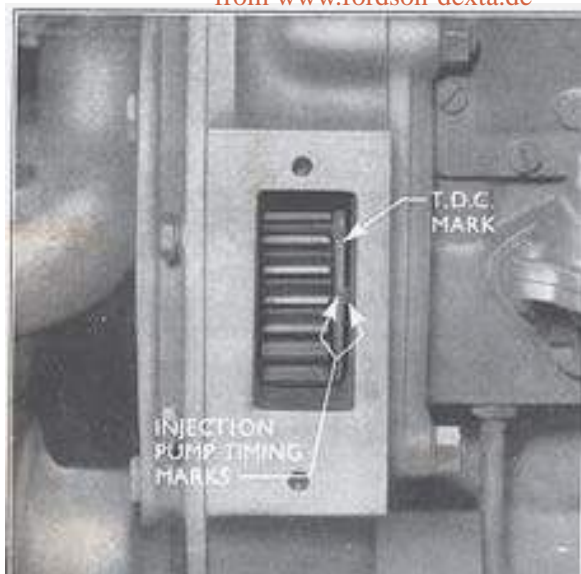

Fig. 7
2. Remove the fuel pump timing plate from the left-hand side of the timing case, and if the injection pump is correctly timed, the timing mark on the fuel pump drive gear adaptor should coincide with the timing pointer cast on the pump mounting flange (see Fig. 7). The timing mark on the adaptor must not be confused with a second mark immediately above it stamped "S" which corresponds with T.D.C.